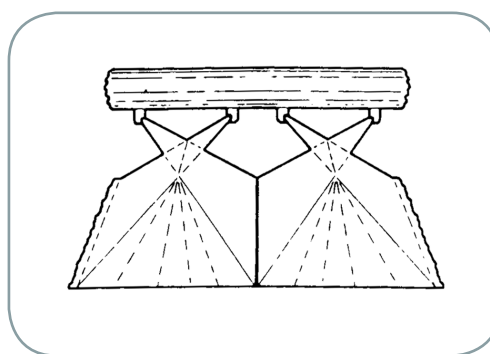

Figure 9: Nozzle Spray Pattern
- Check to see if the nozzles are all spraying consistently and producing the spray pattern in Figure 9.